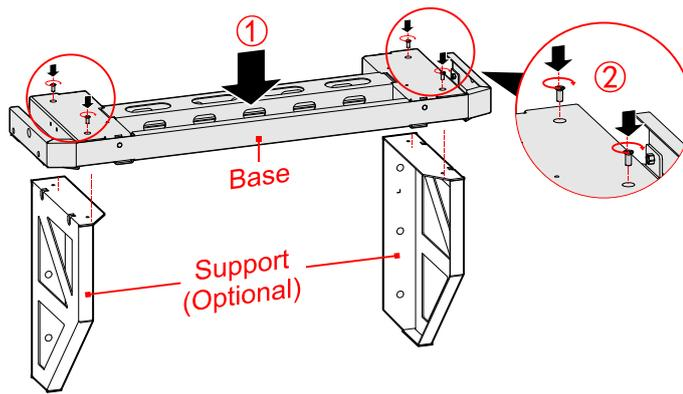

Figure3-12 Assemble the support and base
1. Assemble the support and base by screws M5, as shown in Figure3-12.